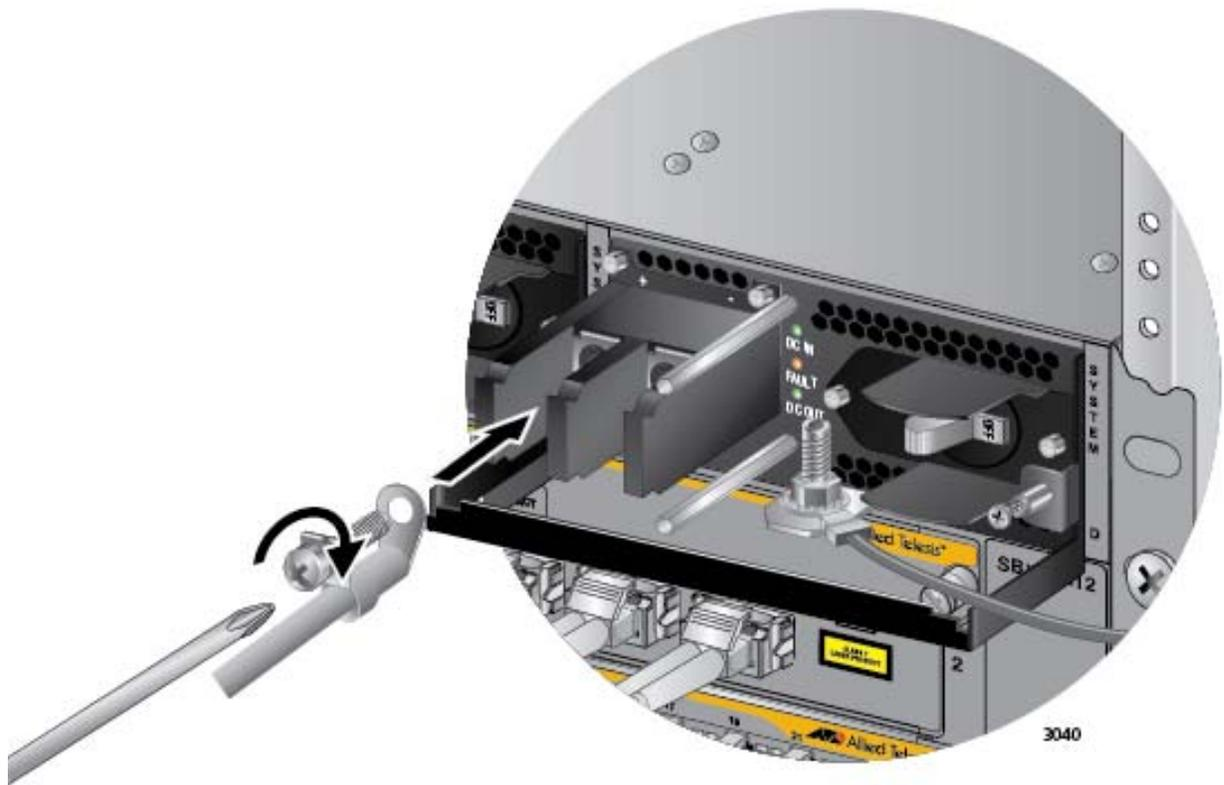

Figure 134. Connecting the Positive (+) Power Wire with a Right Angle Terminal
6. With a #3 Phillips-head screwdriver, connect the positive (+) power lead wire to the positive terminal on the power supply, with one of the terminal screws removed in the previous step. The positive terminal is on the left. Refer to Figure 134 on page 201.